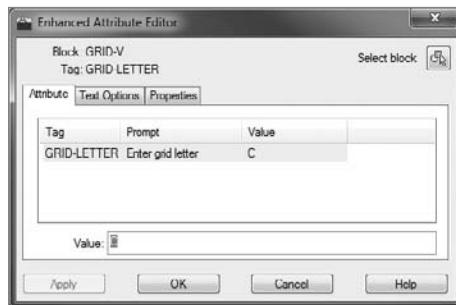

FIGURE 9.12 The Enhanced Attribute Editor dialog box
1. Double-click the C grid symbol. Doing so opens the Enhanced Attribute Editor dialog box shown in Figure 9.12. You can change several items here, but you want to change only the Value parameter.